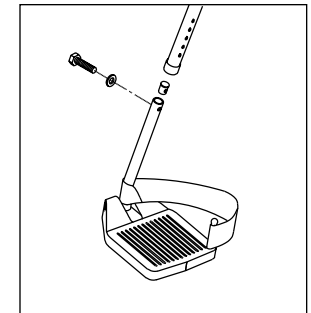

Figure 6
**D. FIXED FRONT FOOTRESTS****1. Adjustment (Fig. 6)**